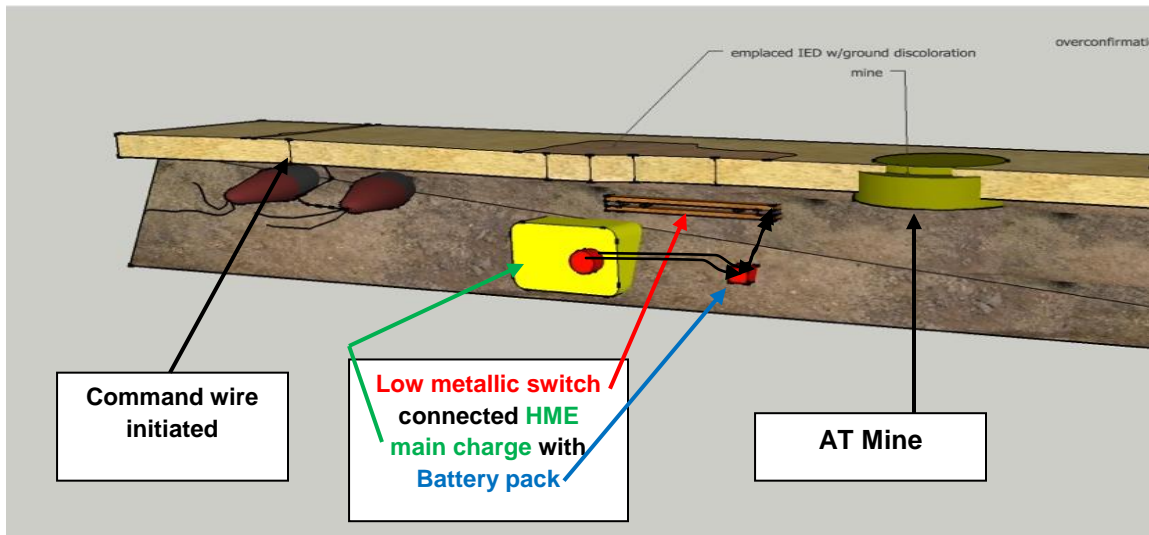

Figure 2. Common types of IED'S/Land Service Ammunition (LSA) found on a roadway.
- Below is a roadway cut out that shows the link between emplacement of an IED and the ground sign left behind. Figure 2 shows the type of typical devices found in theater; figure 3 shows a typical outline of ground sign.